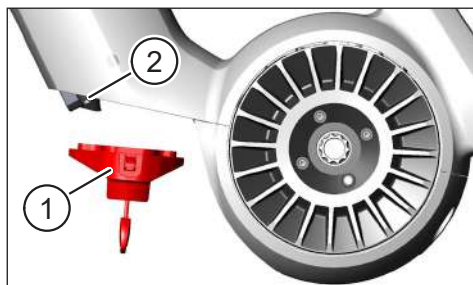

Fig. 12: Removing the battery lock
- ▶ Remove the battery lock (see No. 1 in Fig. 12).
At the same time, hold the battery (see No. 2 in Fig. 12) with one hand to ensure that it does not fall out of the down tube.